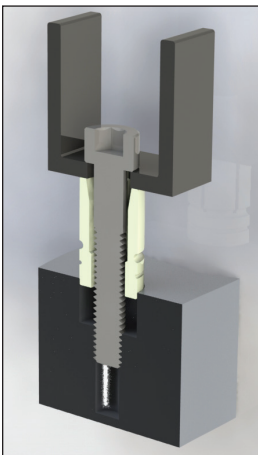

Figure 1
**PRESS FIT INSTALLATION:** Place Pin in prepared bore, place I/R Tool over pin as shown in figure 1. Using the smaller socket head cap screw (SHCS) provided, thread into fixture to evenly draw down pin. Remove SHCS and replace with Tapered screw when ready to use.